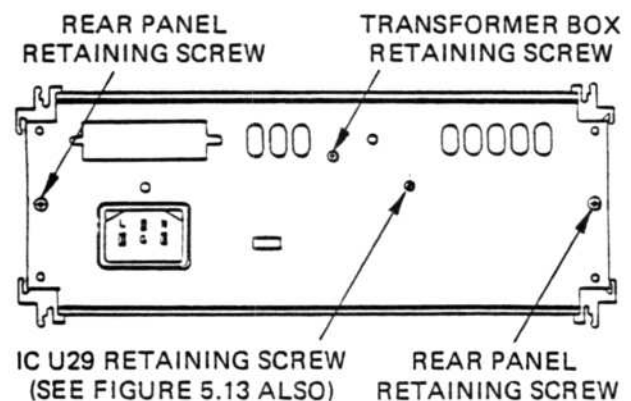

Figure 5.8 - Rear Panel Removal
5.4.3.3 Rear Panel - refer to Figure 5.8 and the following procedure when necessary to remove this panel for 5001 troubleshooting.